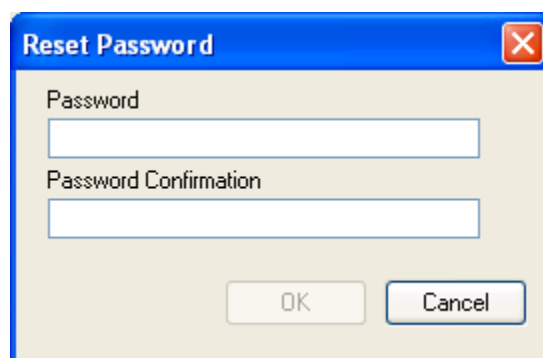

Figure 71 - Reset Password Window
1. Click on the **Reset Password** button. The **Reset Password** window (Figure 71) appears.